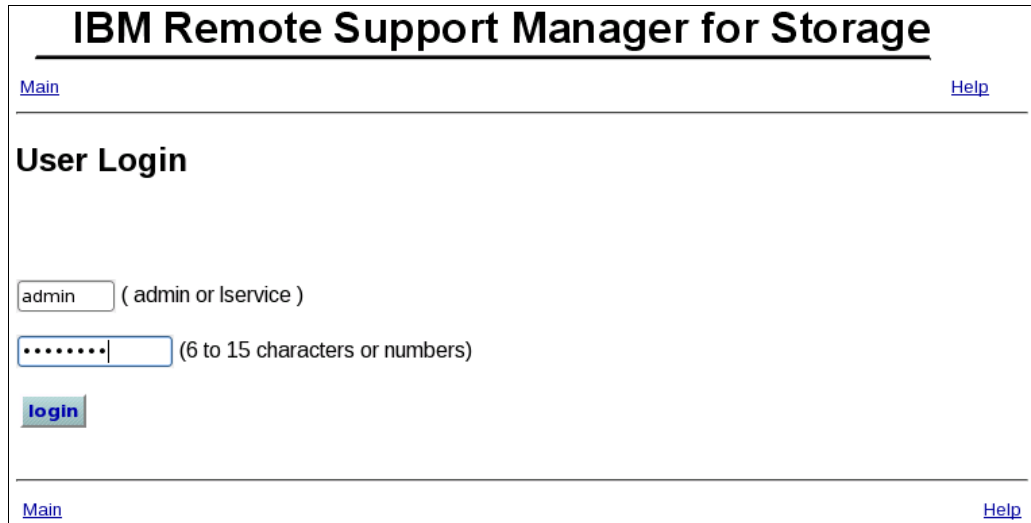

Figure 16-8 RSM logon window
2. Click **Login** and enter the user name and password of the RSM administrator. This account is named admin and the password was defined during the installation of RSM. See Figure 16-8 on page 491.